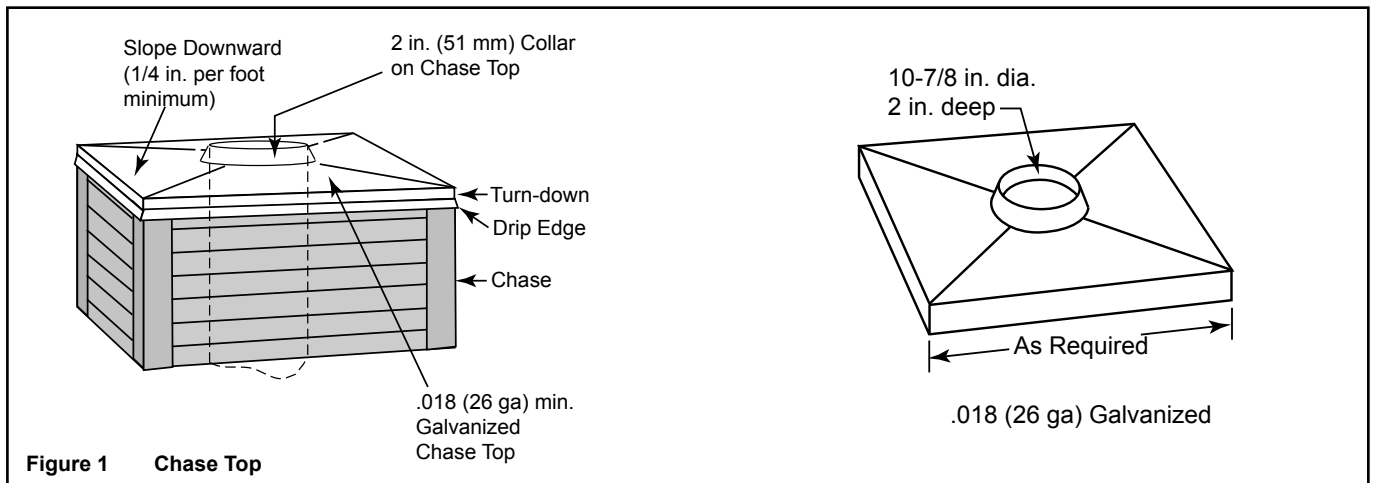

Figure 1 Chase Top
- Fabricate a chase top as shown in Figure 1.
- The uppermost chimney section must extend 4 in. (102) above the top of the chase top collar to allow for the installation of the TR344 termination cap and the storm collar.